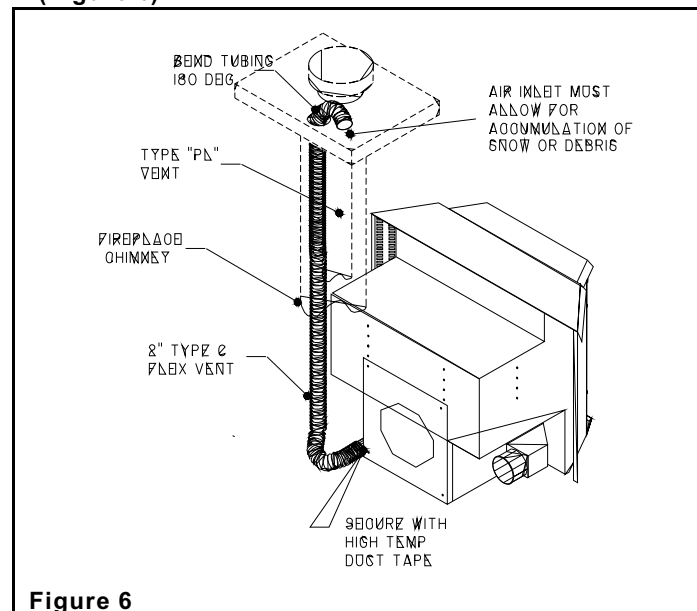

Figure 6
4. Install vent system into existing chimney by using 3" flex from left side of hearth, passing damper and continuing to the top of the chimney. If the total vent length is longer than 10 Feet, install Ø4" vent from that point to top of chimney (Figure 6).
2. In order to hook-up the battery and engage the 12V backup system simply connect red cable to red terminal on the heater (**see Figure 6**) and to positive connector on battery [the terminal marked (+)] and connect the black cable to the black terminal on the heater and to the negative connector on the battery (the terminal marked (-)). If you hook up the cables backwards the red LED light above the terminal receptacles will come on. If hooked up properly this LED will glow green.